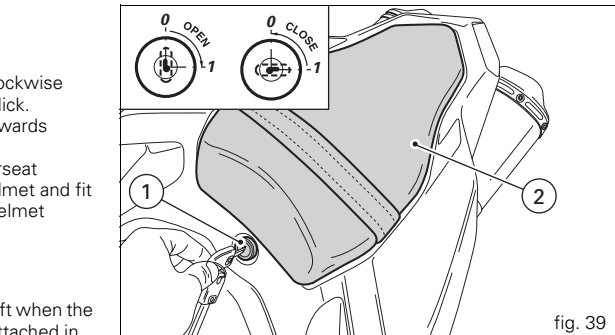
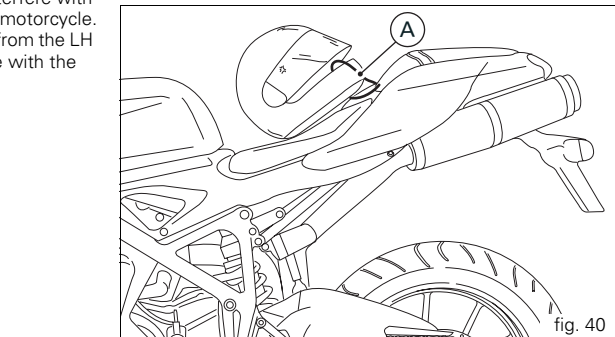

fig. 39
fig. 40
Opening (fig. 39 and fig. 40)
The helmet cable is in the front part of the underseat compartment. Pass the cable (A) through the helmet and fit the ends of the cable into the hook. Leave the helmet (fig. 40) hanging and refit the seat to secure it.